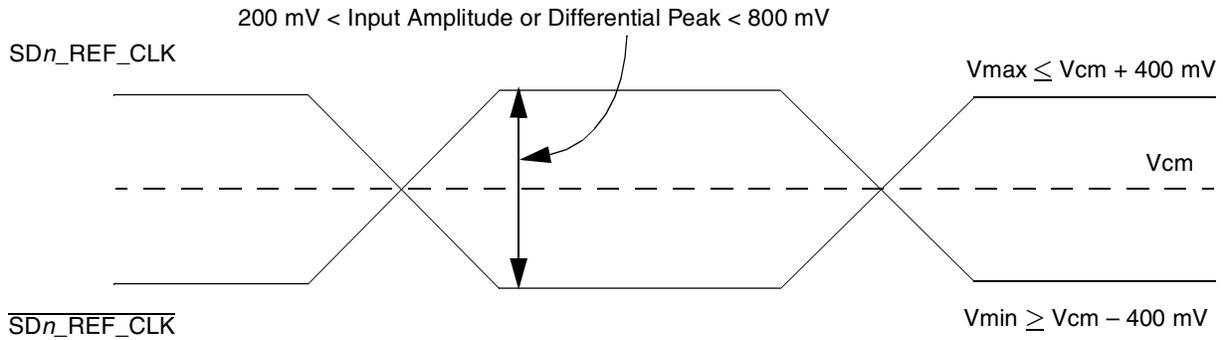

Figure 46. Differential Reference Clock Input DC Requirements (External AC-Coupled)
- For **external AC-coupled** connection, there is no common mode voltage requirement for the clock driver. Since the external AC-coupling capacitor blocks the DC level, the clock driver and the SerDes reference clock receiver operate in different command mode voltages. The SerDes reference clock receiver in this connection scheme has its common mode voltage set to SGND_SRDSn. Each signal wire of the differential inputs is allowed to swing below and above the command mode voltage (SGND_SRDSn). Figure 46 shows the SerDes reference clock input requirement for AC-coupled connection scheme.